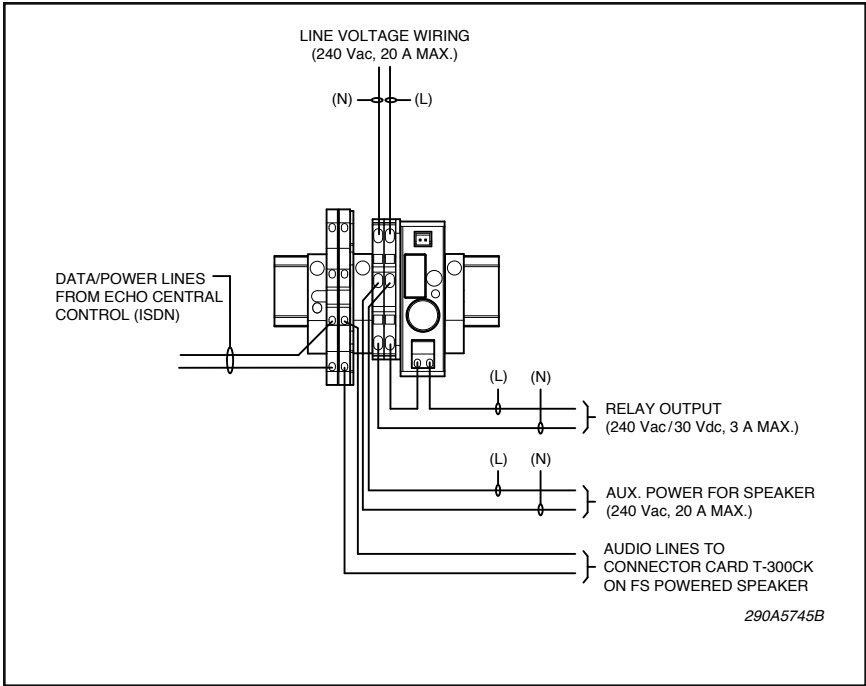

Figure 1.
- e. A series of DIN rail mount terminal blocks are provided for field wiring. See Figure 1 for wiring diagram. These terminals are rated as follows:
- (1). Relay Output: 18-12 AWG (0.75 – 4 mm²), Tightening torque 3.4 in-lb (0.4 Nm), 240 Vac or 30 Vdc, 3 A max.
- (2). Aux. Power: 18-12 AWG (0.75 – 4mm²), 240 Vac, 20 A max.
- (3). Audio/ISDN: 26-12 AWG (0.25 – 4mm²), Cu conductors only